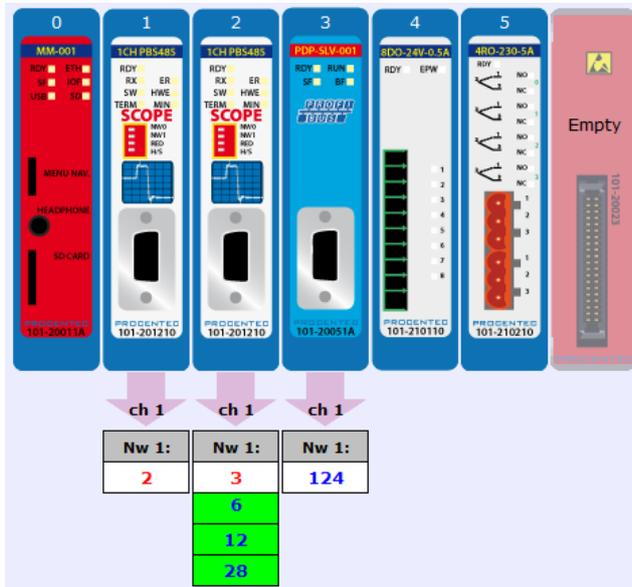

Fig. 67 - ComBricks configuration screenshot of the web server
This example, a typical ComBricks setup with remote I/O, is built up as follows (see **Fig. 67**)
**ATTENTION:** in some configuration tools, the slot numbers do **not** correspond to the slots displayed in Fig. 67. The modules are numbered from 0 instead of 1. This is not the case for all configuration tools. Make sure to check this before adding modules to your configuration.